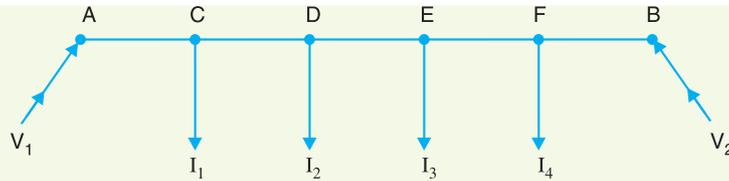

Fig. 13.16
- (ii) **Two ends fed with unequal voltages.** Fig. 13.16 shows the distributor  $AB$  fed with unequal voltages; end  $A$  being fed at  $V_1$  volts and end  $B$  at  $V_2$  volts. The point of minimum potential can be found by following the same procedure as discussed above. Thus in this case,